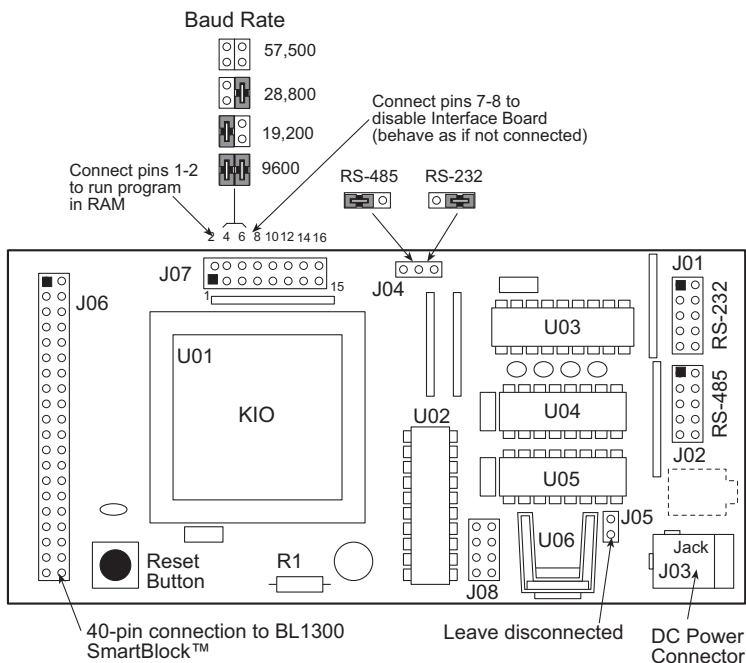

Figure 2-2. Dynamic C Interface Board
- Set the jumpers on jumper block J04 of the Dynamic C Interface Board for RS-232 or RS-485 according to the communication protocol to be used. Set the baud rate using pins 3-4 and 5-6 on jumper block J07 on the Interface Board. Connect pins 1-2 on J07 to run the program in the battery-backed RAM on reset, instead of Dynamic C. Figure 2-2 shows the Interface Board and its jumper configurations.
Although the Interface Board has its own power supply connections at J03, as shown in Figure 2-2, do not connect the transformer to the Interface Board. The Interface Board will receive its power through the 40-wire cable connecting it to the BL1300 SmartBlock.™
The baud rate may be changed by connecting the appropriate pins on jumper block J07 of the Dynamic C Interface Board, as shown in Figure 2-2, then pushing the reset button.